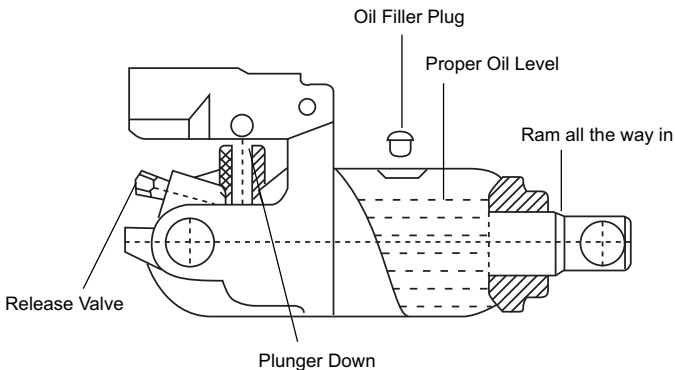

FIG. 2
- Remove the oil filler plug from the cylinder. (see Fig. 2)
- Position the jack on level ground and fully lower the saddle. (Ram will be all the way in). Remove oil filler plug located under cover plate (see Fig. 2).
- Check ram and pump plunger (see Fig. 2) every few months for any signs of rust or corrosion. Clean as needed by wiping with an oily cloth.